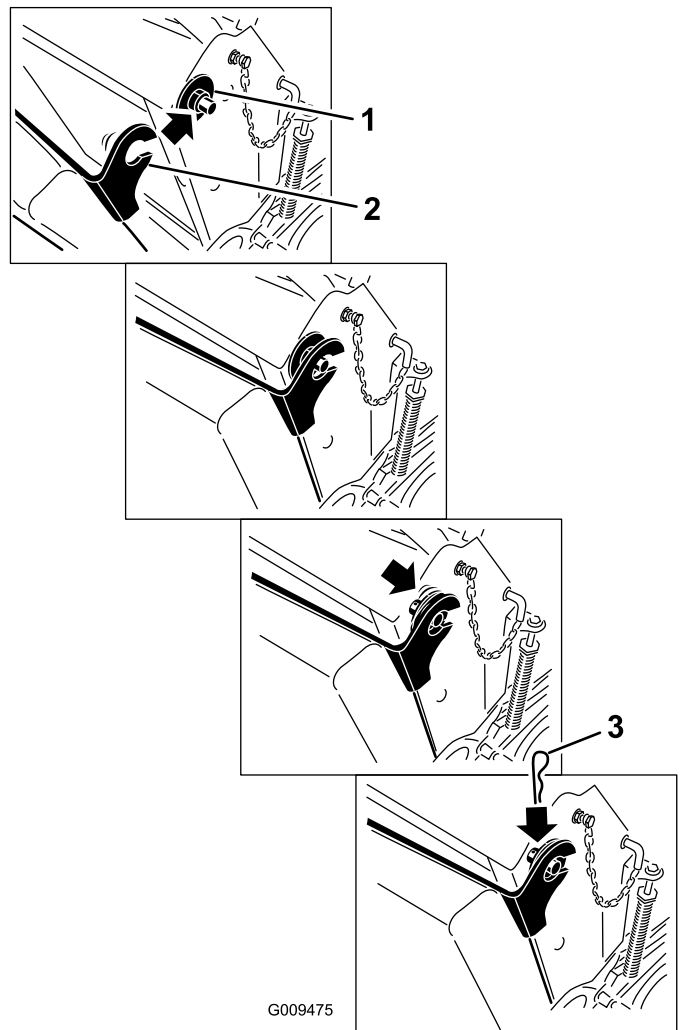

Figure 34
6. Raise the cushion and slide it onto the pins on both sides of the machine (Figure 34).
7. Slide the large washers plastic bushings into the cushion bracket and secure them with a hairpin cotter pin (Figure 34).